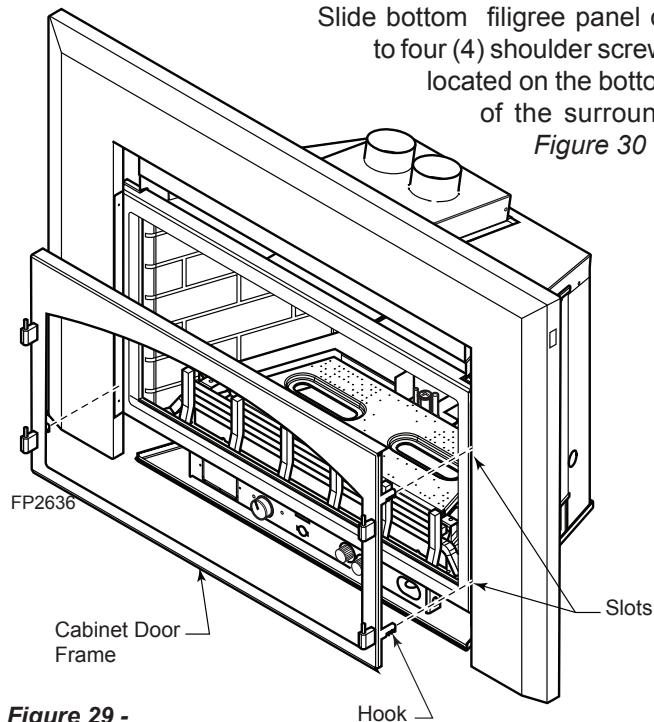

Figure 29 - Install Cabinet Door Frame
1. Slide cabinet door frame on to front of unit. Make sure the four (4) hooks of the cabinet door frame are inside four slots on front of unit. *Figure 29*